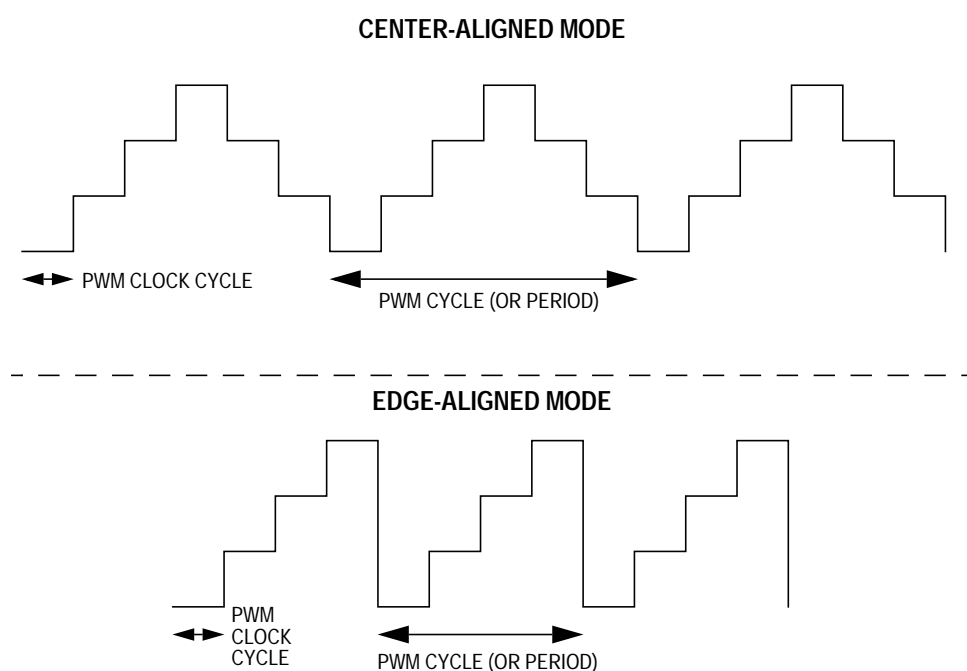

Figure 9-51. PWM Clock Cycle and PWM Cycle Definitions
PWM Clock Cycle (or Period) — One tick of the PWM counter ($1/f_{op}$ with no prescaler). See Figure 9-51.
- Center-aligned mode: The time it takes the PWM counter to count up and count down (modulus* $2/f_{op}$ assuming no prescaler). See Figure 9-51.
- Edge-aligned mode: The time it takes the PWM counter to count up (Modulus/ f_{op}). See Figure 9-51.